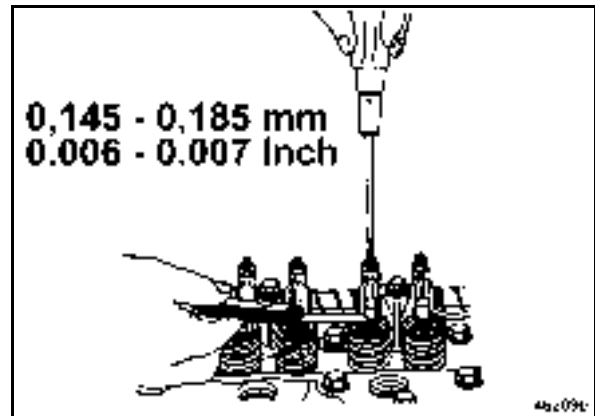

Fig. 123
- Check the gap between rocker arm and valve with a feeler gauge (Fig. 123).